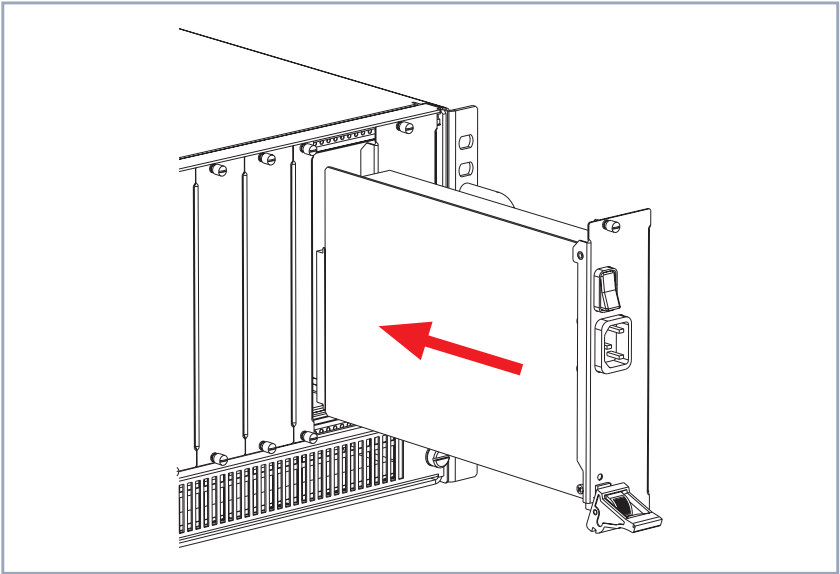

Figure 1-2: Inserting new X8A-PS
- Insert the new power supply unit into the power supply slot (see figure 1-2, page 21) until it reaches the slot connector. Card guides ensure that the power supply unit is reliably inserted.